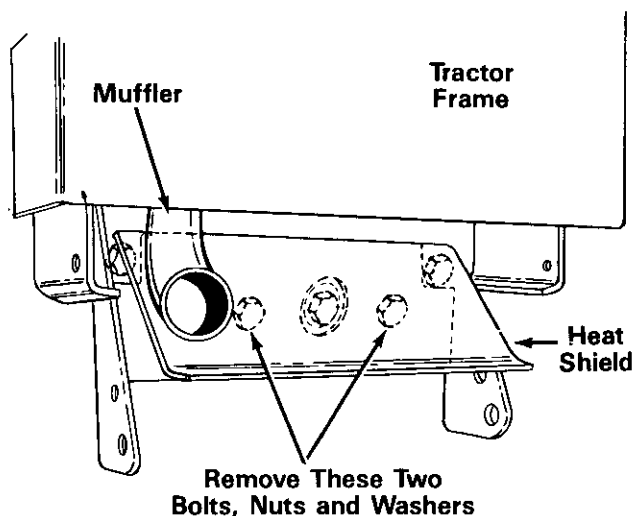

FIGURE 9
8. Remove the heat shield on the tractor by removing two bolts, nuts and washers from heat shield and front of tractor frame as shown in figure 9 (if unit is so equipped).